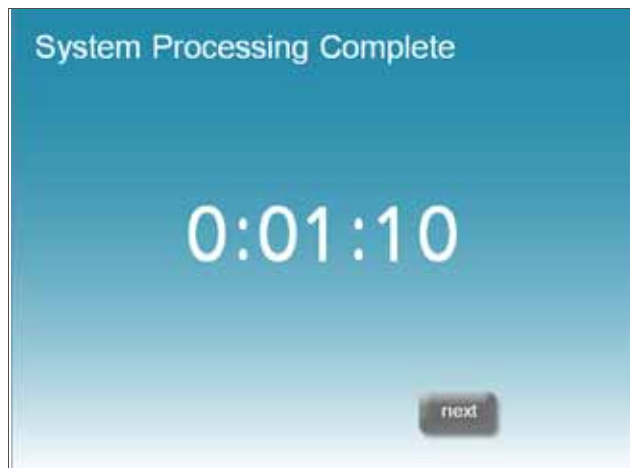

Figure 2.25 System Processing Complete touchscreen
15. When the run is complete, the blue System Processing Complete screen appears and the timer starts to count up from when the run has completed (Figure 2.25).